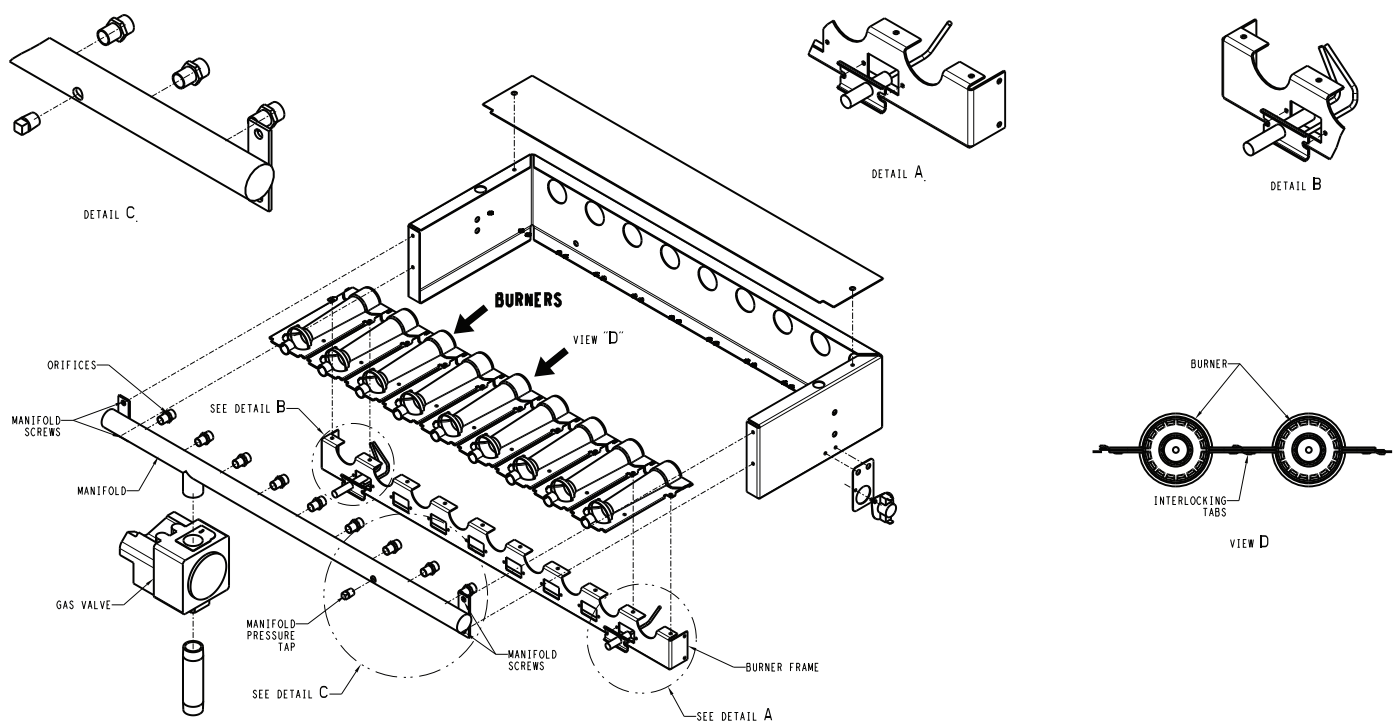

Fig. 55 — Main Burner Removal (High Heat Shown)
4. Remove the 2 screws on each end of the gas manifold that attached it to the sheet metal side brackets. Save the screws. See Fig. 55.
5. Remove the gas manifold assembly at the gas union with the gas valve attached. See Fig. 55.
8. Remount the gas manifold assembly to the sheet metal side brackets using 2 screws on each end (saved from step 6); make sure that the gas orifices are all inserted into the burners. See Fig. 55.